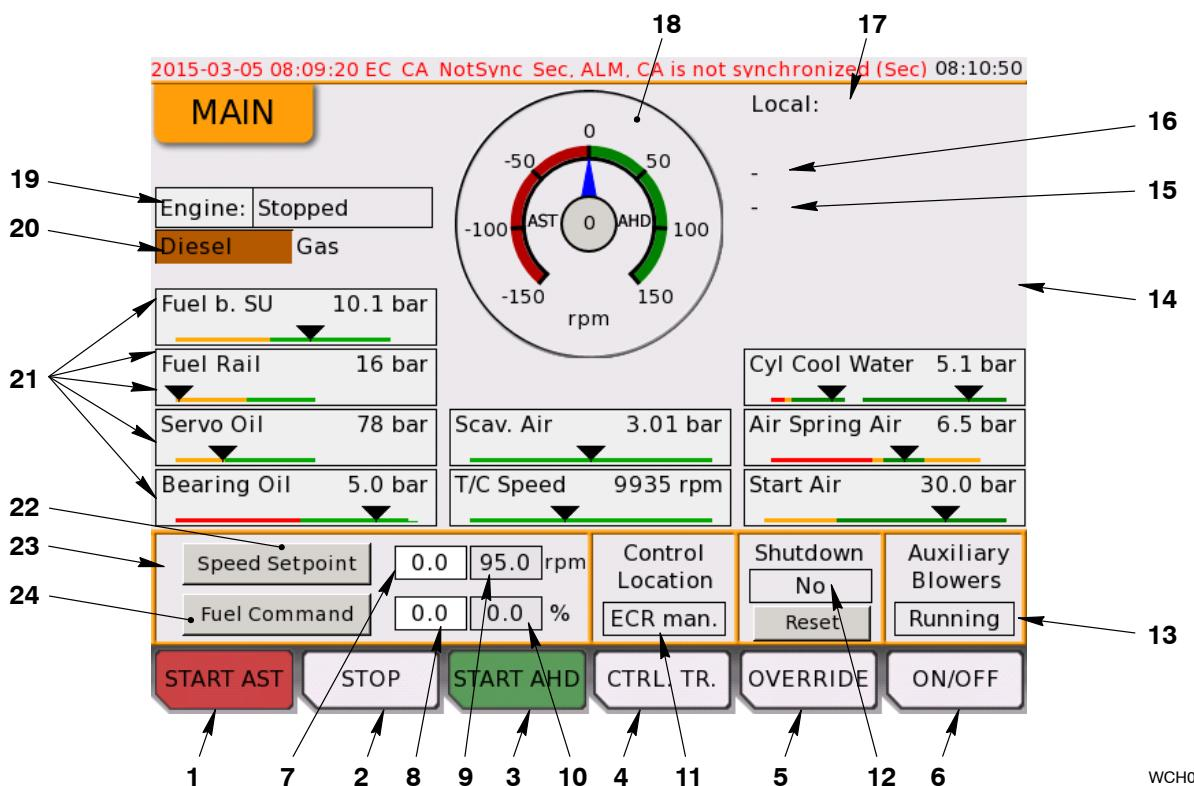

Fig. 5: MAIN Page
- 1) To operate the engine from the main page, first make sure that the LDU-20 is the active control location (11 and 17, Fig. 5). If necessary, select the CTRL.TR button to transfer control.